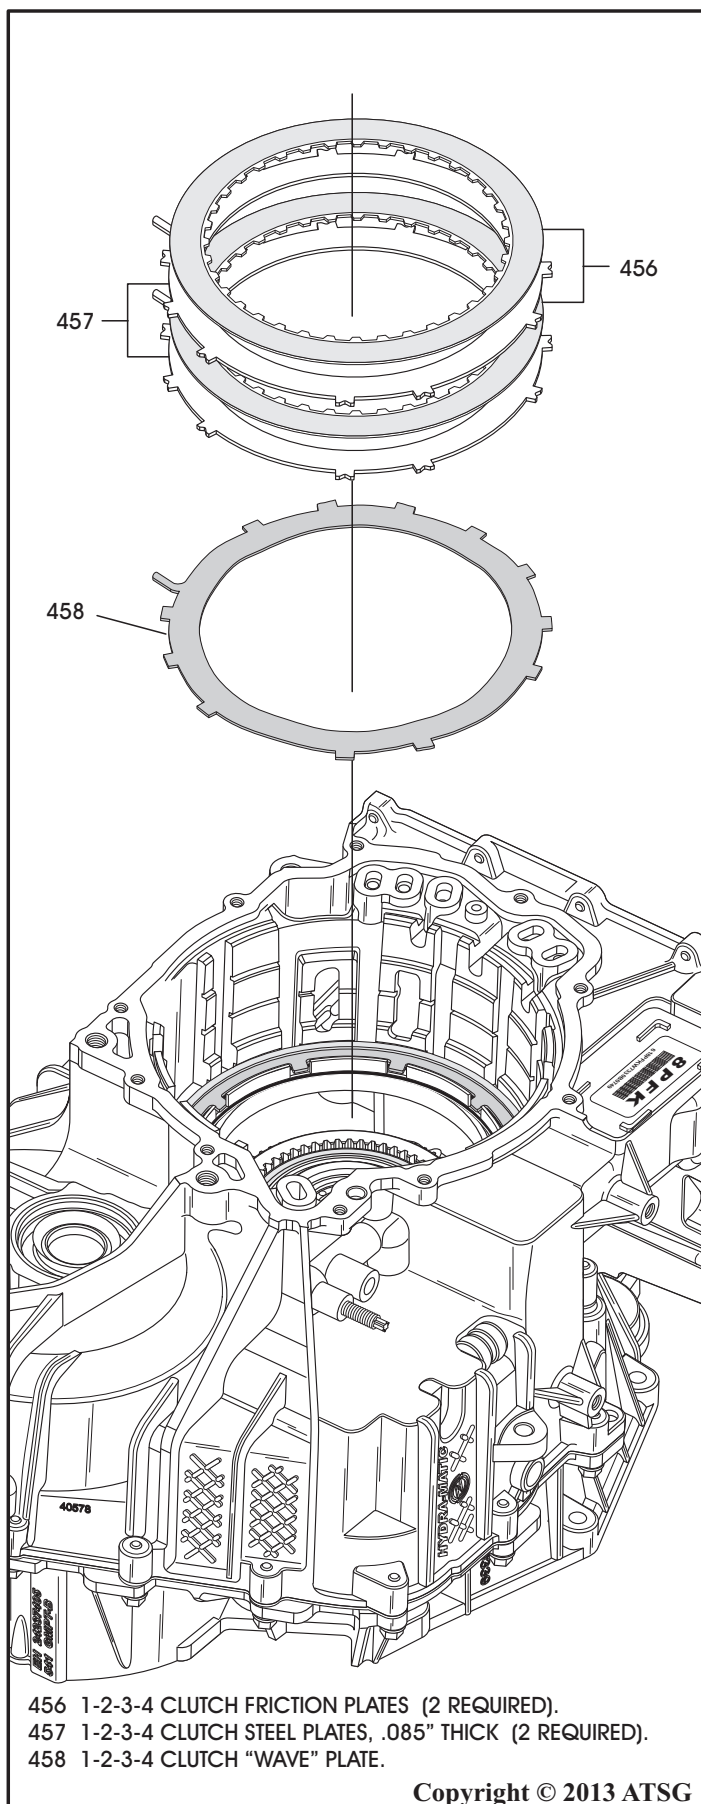
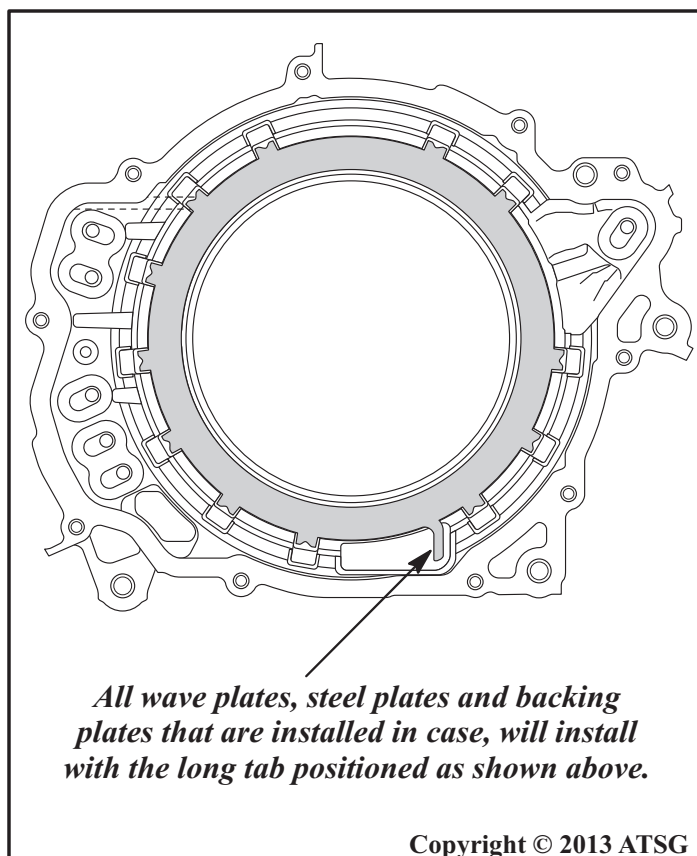

Figure 193
Figure 194
16. Install the 1-2-3-4 clutch wave plate in the case, as shown in Figure 193, with the long tab facing the bottom of the case (See Figure 194)..
17. Install the 1-2-3-4 clutch plates beginning with a steel plate and alternating with friction plates until you have installed 2 of each, as shown in Figure 193.
**Note: All wave plates, steel plates and backing plates that are installed in case will install with the long tab positioned as shown in Figure 194.**
**Note:** The steel plates are .070" thick and the apply plate is .115" thick. Refer to Figure 194 for positioning of the long tabs.